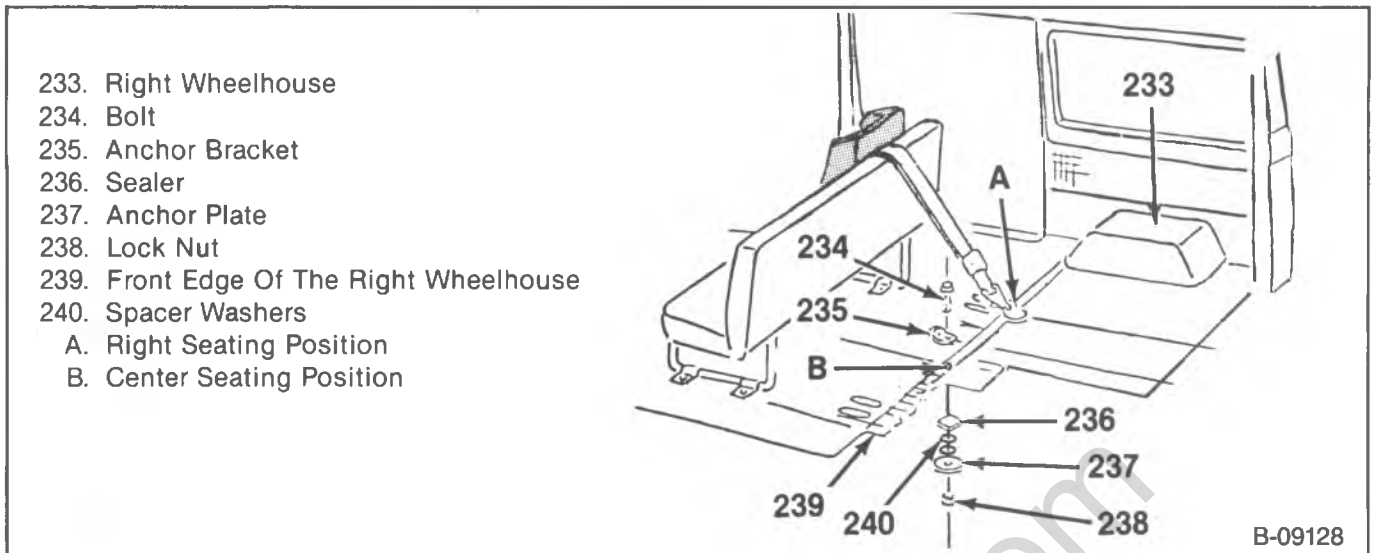

Figure 44—Second Seat Top Strap Components—Center and Right Position
1. Determine the location for the anchor by measuring 35 mm ($1\frac{3}{8}$ -inch) rearward from the front edge of the left wheelhouse (figure 44). Next: